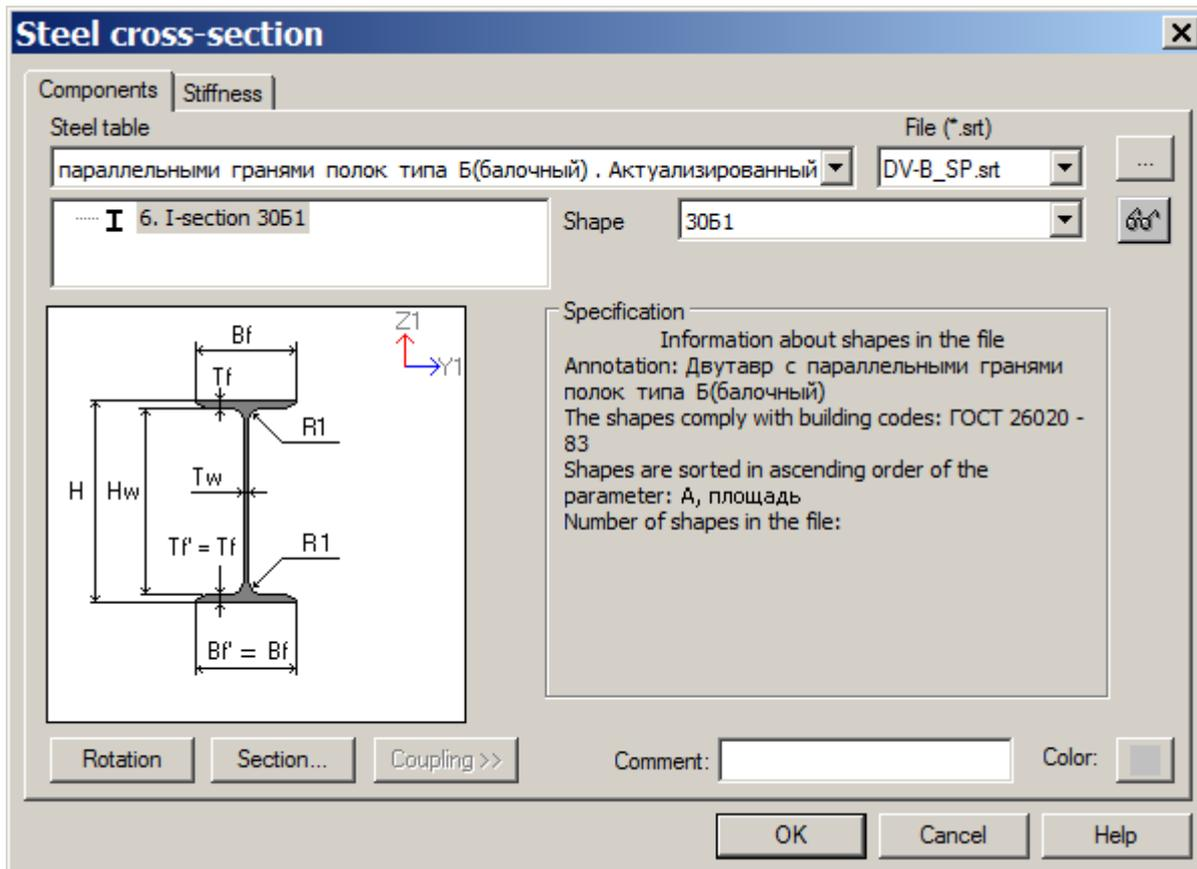

Figure 4.13 **Steel cross-section** dialog box
- ⇒ In the **Steel cross-section** dialog box (see Fig.4.13), specify the following parameters for I-section: